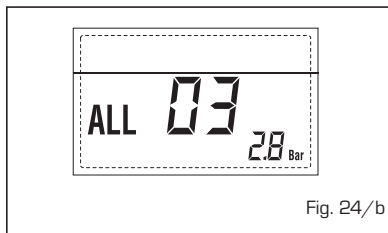

Fig. 24/b
**- ANOMALÍA SONDA SANITARIO "ALL 04" (fig. 24/c)**